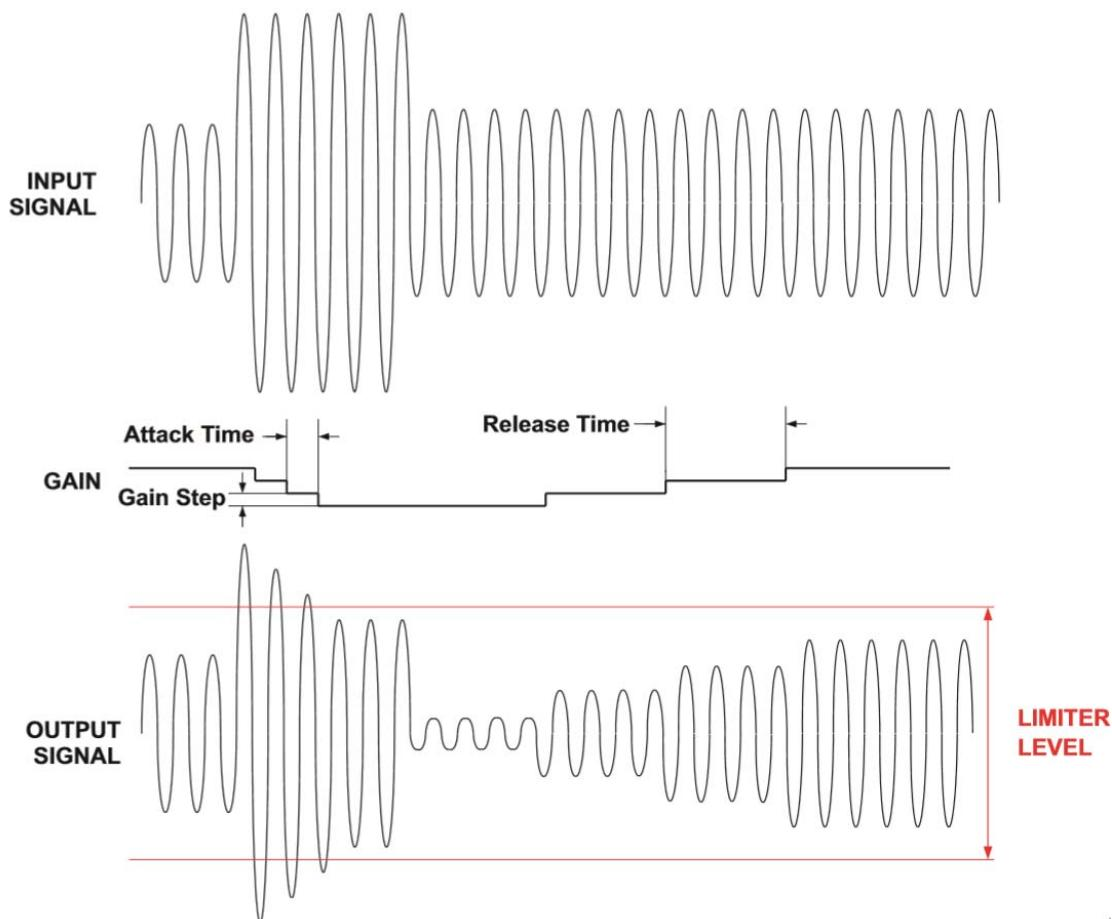

Fig. 3 AGC Limiter Function
0.375dB per step (or 0.75dB per step, which can be modified in register address 0x0A). HT862 increases the gain by the rate release time (default value 150ms/dB, can be modified in register address 0x0C), 0.375 per step (or 0.75dB per step, which can be modified in register address 0x0A), once the output audio is below the limiter level. Figure 3 shows this relationship.